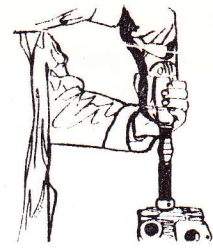

Fig. 7. Reworking Valve Seat with Stone
8. If seat requires reworking, do so with 44° seat cutter or stone, holding the seat width between 1/32" and 3/64" (Fig. 7).